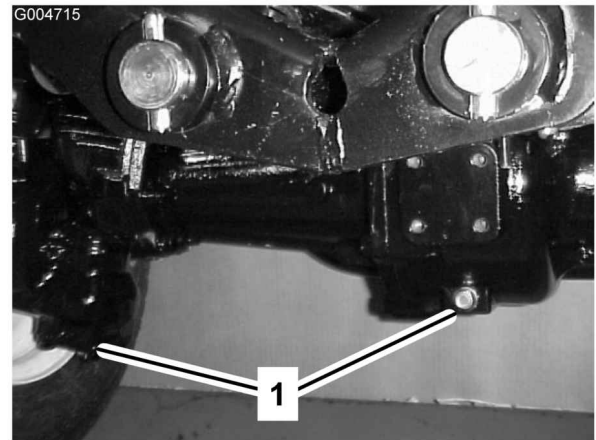

Figure 59
- Clean the area around the 3 drain plugs; 1 on each end and 1 in the center (Figure 59).